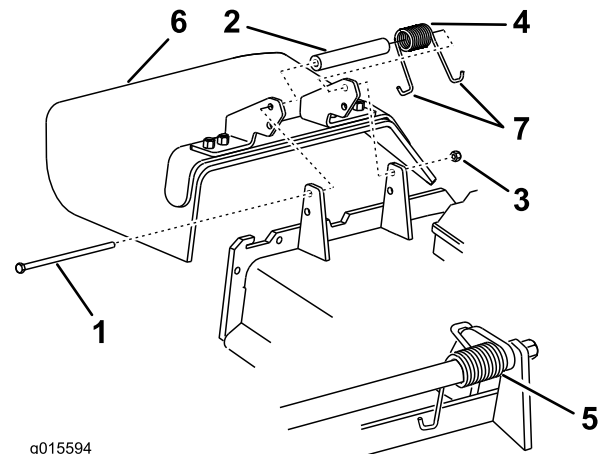

Figure 59
1. Remove the locknut, bolt, spring and spacer holding the deflector to the pivot brackets (Figure 59).
Note: Install one J-hook end of the spring is installed behind the deck edge before installing the bolt as shown in Figure 59.
3. Install the bolt and nut. Place one J-hook end of the spring around the grass deflector (Figure 59).